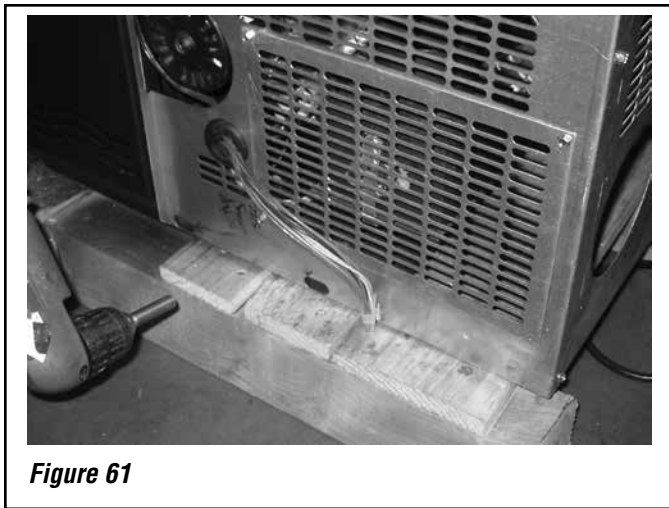

**Figure 59**
6. Install the side stand-off brackets (H) and rear stand-off bracket (I) in the same manner explained above. **Figure 59** below shows these stand-offs installed.